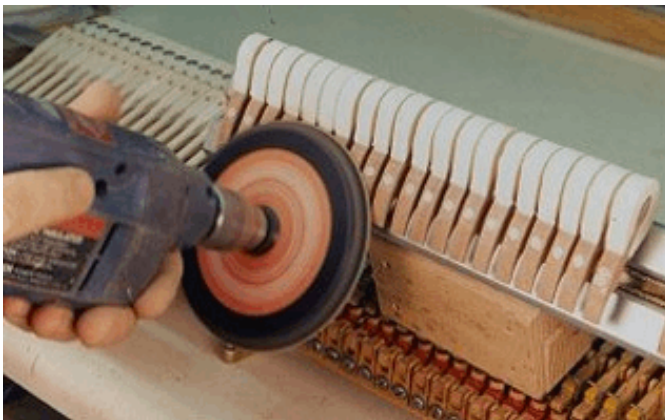

Figure 17: sanding off the shank stubs
3. Final trimming: While still clamped, use coarse sandpaper on a flexible rubber sanding disc in an electric drill to dress the cut shank ends perfectly flush, as shown in Figure 17. Do not alter the tail arcing that was done before hanging the hammers—just lightly smooth the shank ends. Lastly, lift the clamped section of hammers and lightly sand any sharp edge at the bottom of the tails using a hand sanding block.